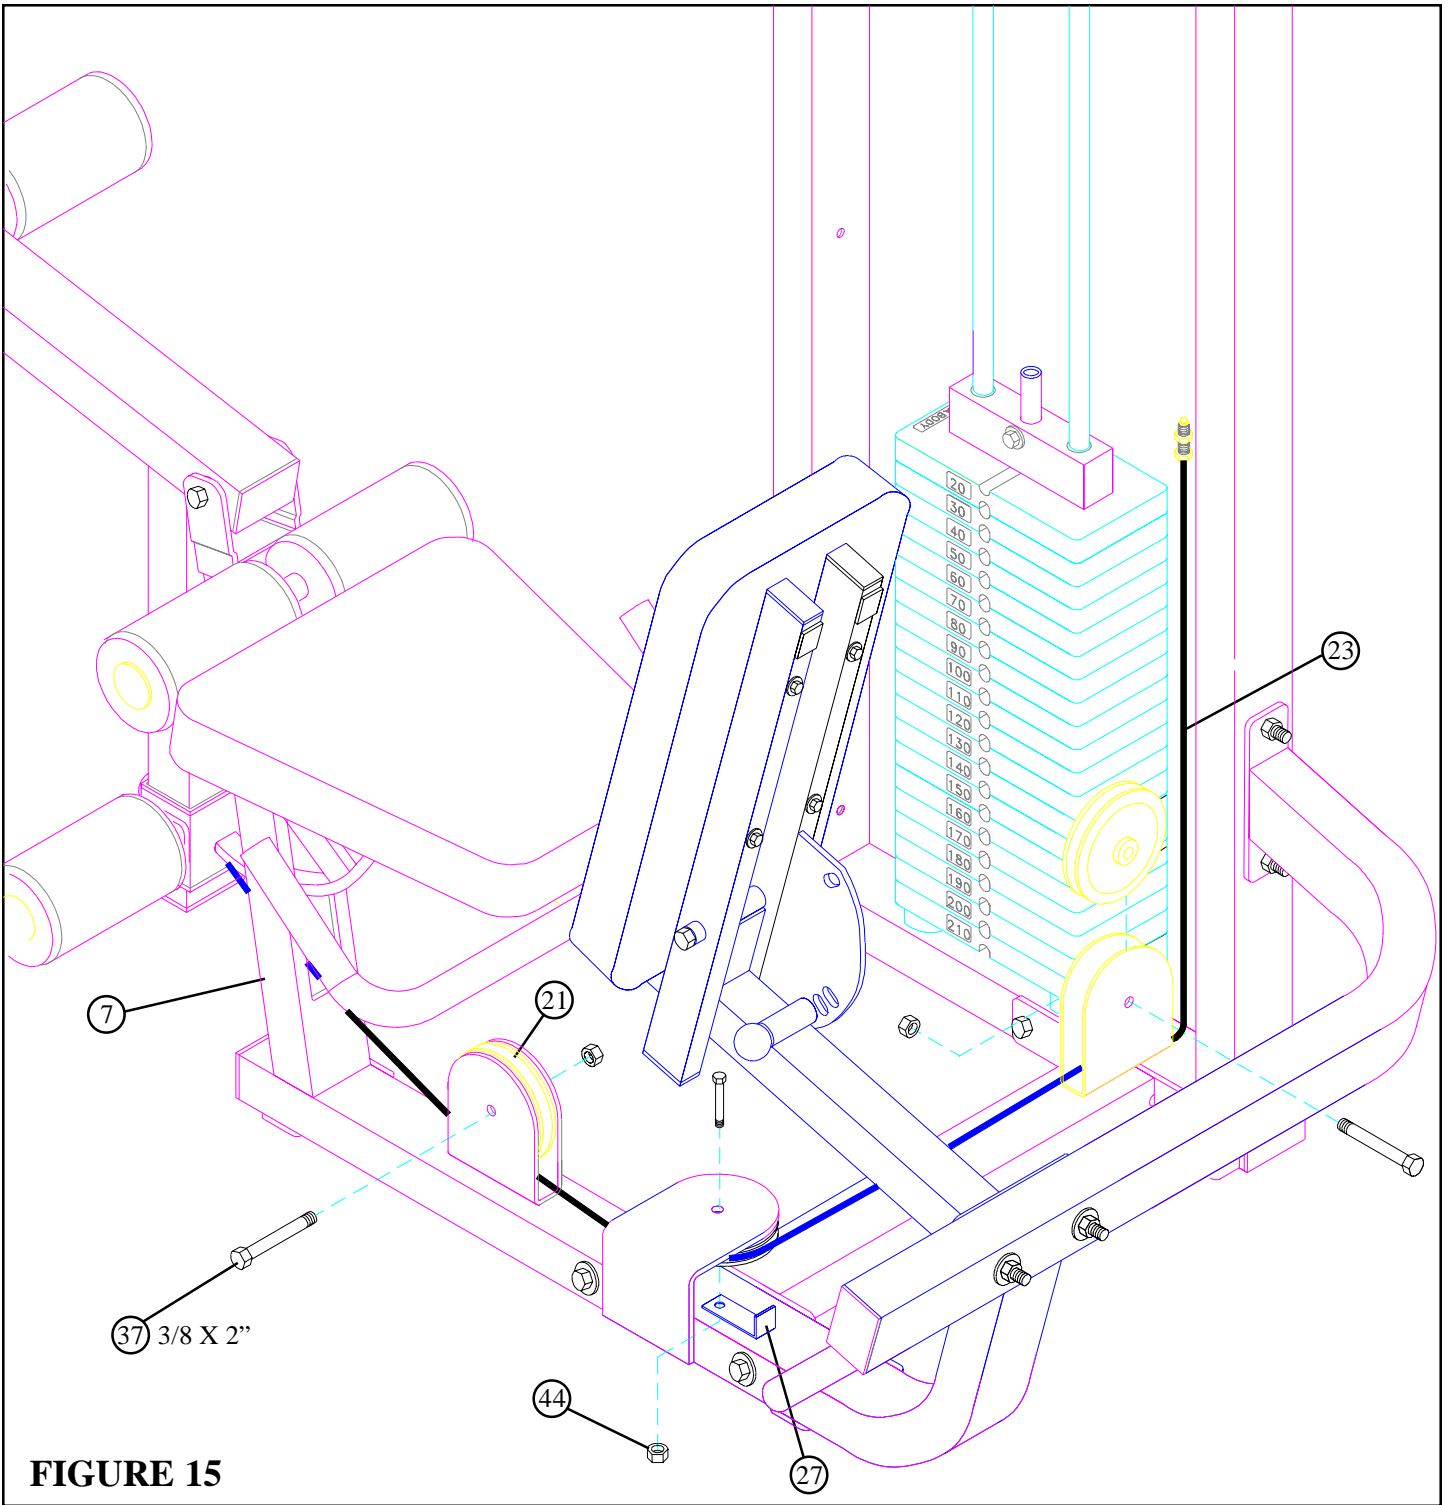

**FIGURE 14**
- Attach two 1 X 1" GLIDES (29) to the LEFT & RIGHT PAD SUPPORTS (12) (13) approximately where shown in FIGURE 14.
- **SECURELY** assemble the CABLE (23) to the cam on the LEG PEDESTAL (9) using one 3/8 X 1" BOLT (38), one 3/8" WASHER (41), and one 3/8" LOCK NUT (44). See FIGURE 14.
- Insert threaded end of CABLE (23) through slot of the BENCH FRAME (7) and around LEG CURL/EXTENSION (9) as shown in FIGURE 14.